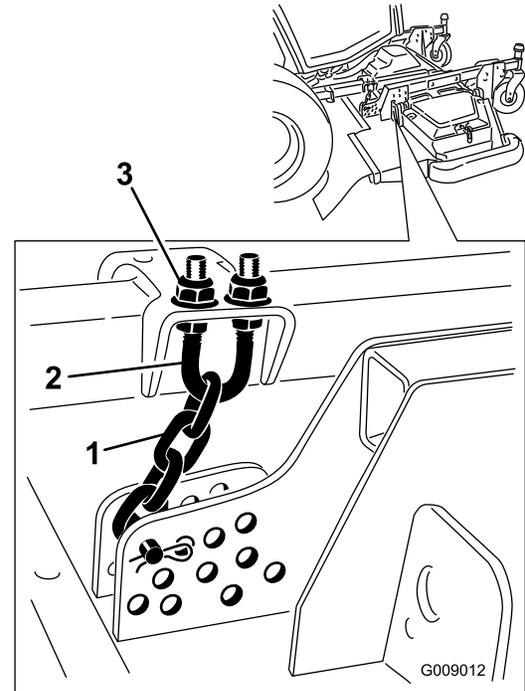

Figure 140
5. Loosen the jam nuts on the top or bottom of the height-of-cut chain U-bolt (Figure 140).